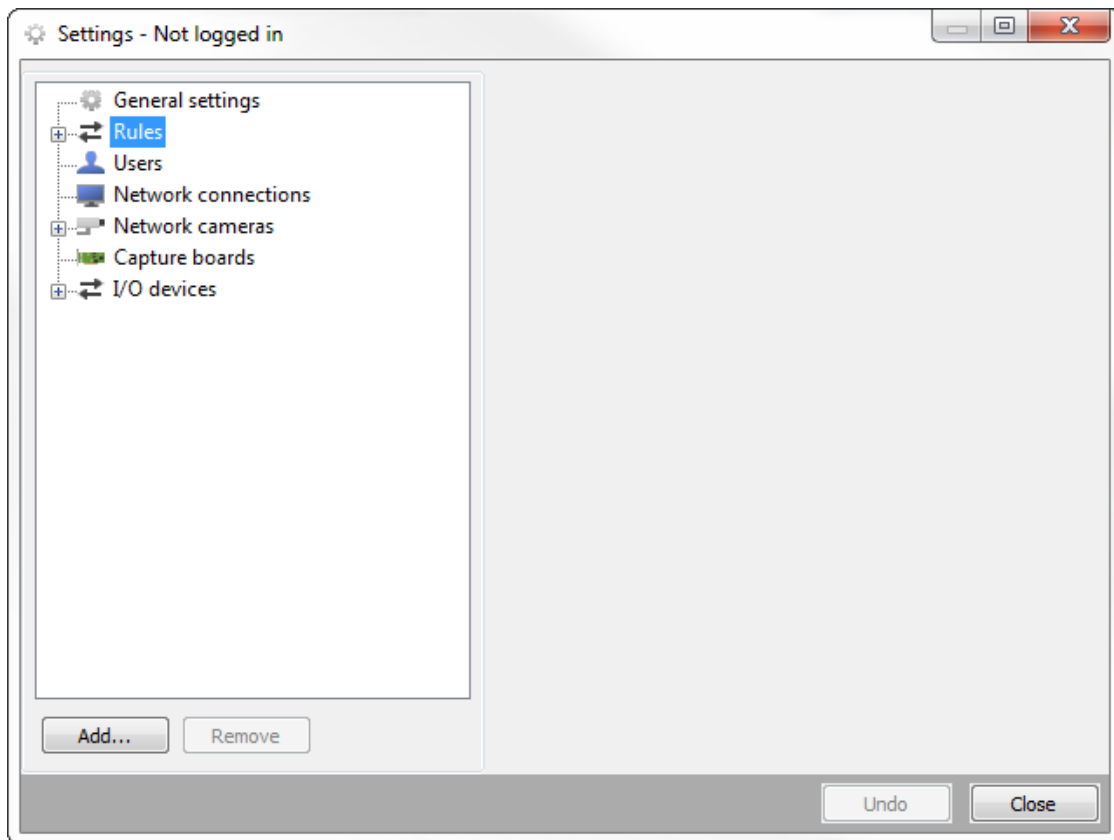

Figure 5.5: Rules.
- Click "Rules" and click button "Add..." (Figure 5.5).